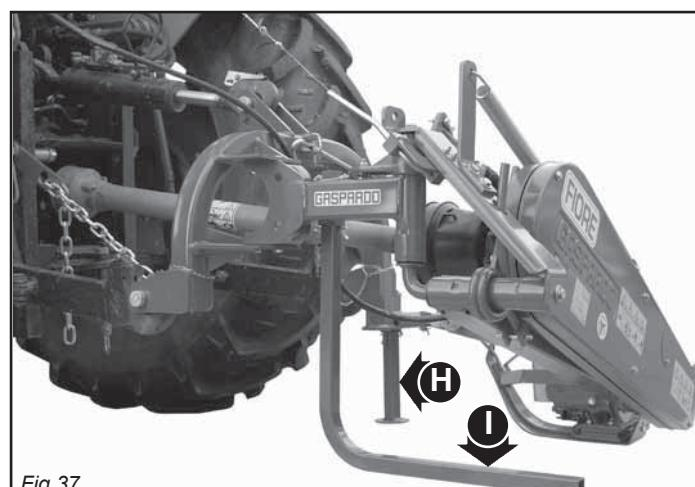

Fig. 37
- Lastly, store the implement in a dry place where it cannot be tampered with by unauthorized persons; the mowing machine must be set-up on flat and compact ground, supported by the relative bearing struts (H-I, Fig. 37).